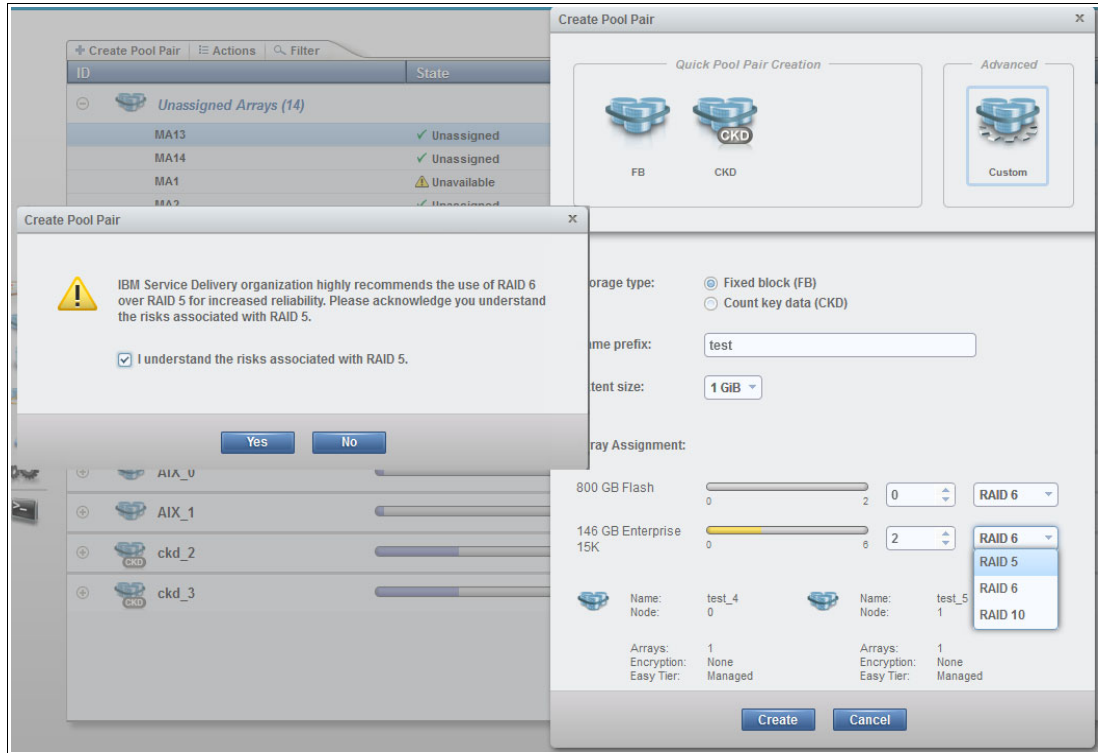

Figure 11-27 Configure FB storage pools with Advanced Options RAID 5
- Storage type: Ensure that **Fixed Block (FB)** is selected.
- Choose the RAID level for the selected arrays. See Figure 11-26 for all DS8880 Models 980, 981, and 982. For DS8880 Models 984, 985, 986, and 988, if RAID 5 is selected, you need to accept the disclaimer that appears. See Figure 11-27 on page 280. A time stamped record with user information is created for audit purposes.
RAID level 5 for drive types greater than 1 TB is not recommended and is not allowed. If your environment requires RAID 5, contact IBM. However, you will have to acknowledge your understanding of the risk with RAID 5, as shown in Figure 11-27 on page 280.
Figure 11-27 shows configuring FB storage pools with RAID 5.